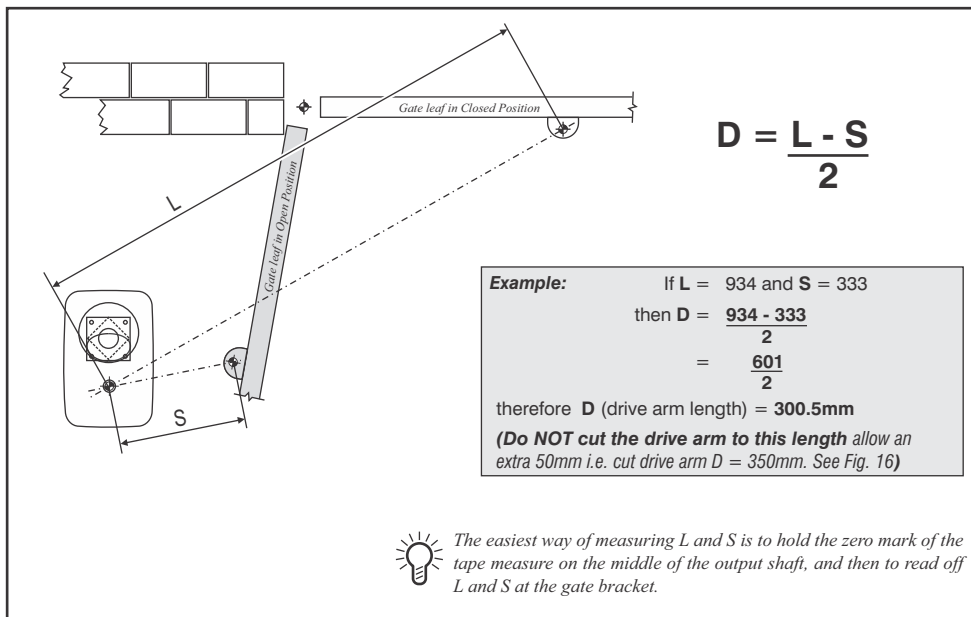
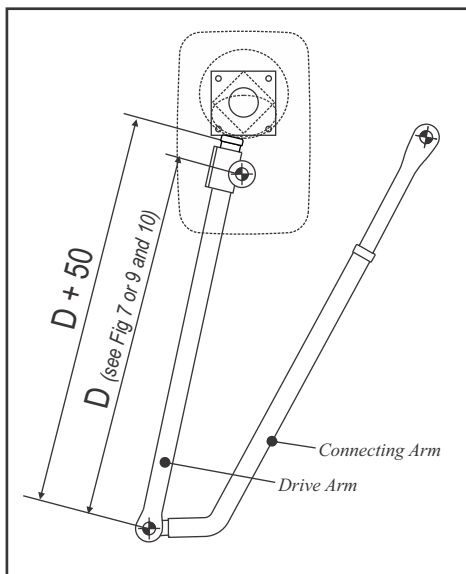

Figure 15 Determining Drive Arm Length for Standard Pedestal & Outward Opening Gates
Figure 16 Adjust Drive Arm length
Measure dimensions L (long) and S (short) as in Fig. 15 and calculate the drive arm length D as shown in Fig. 15. **DO NOT CUT THE DRIVE ARM TO THIS LENGTH.** Cut the drive arm at least 50mm longer than D. The cut length is therefore =  $D + 50\text{mm}$ . (See Fig. 16)
From the tables on Fig. 8, determine the drive arm length D, and select the **boldface** value if the motor is mounted in the recommended. **DO NOT CUT THE DRIVE ARM TO THIS LENGTH.** Cut the drive arm at least 50mm longer than D. The cut length is therefore =  $D + 50\text{mm}$  (see Fig. 16)
Determine the drive arm length (D) from Figures 10 and 11. **DO NOT CUT THE DRIVE ARM TO THIS LENGTH.** Cut the drive arm at least 50mm longer than D. The cut length therefore =  $D + 50$ mm (see Fig. 16)